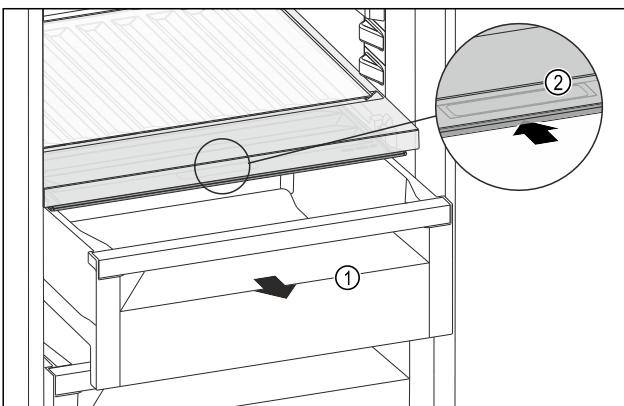

Fig. 116
- ▶ Pull out the drawer Fig. 116 (1).
- ▶ Grip the handle recess Fig. 116 (2) on the lid while pulling the lid backward at the same time.